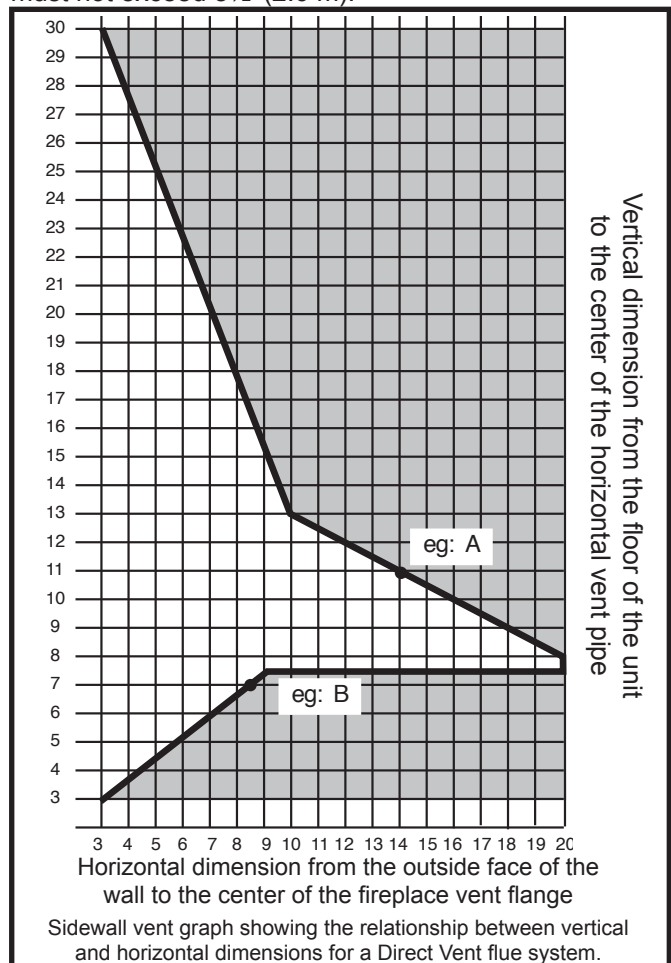

Fig. 38 Sidewall venting graph. (Dimensions in feet)
1. Determine the height of the center of the horizontal vent pipe exiting through the outer wall. Using this dimension on the Sidewall Vent Graph (Fig. 38), locate the point intersecting with the slanted graph line.